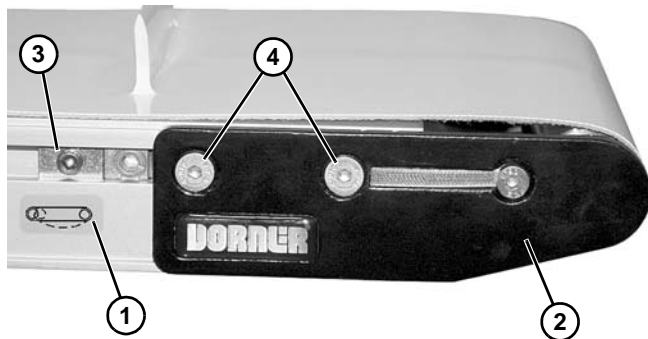

Figure 29
2. On tension end of the conveyor, identified with  a label (Figure 29, item 1), push in head plate assembly (Figure 29, item 2):
- a. On both sides of conveyor, loosen and move cam tracking assemblies (Figure 29, item 3) (if equipped) away from head plates.
- b. Loosen fastening screws (Figure 29, item 4) and push head plate assembly inward.